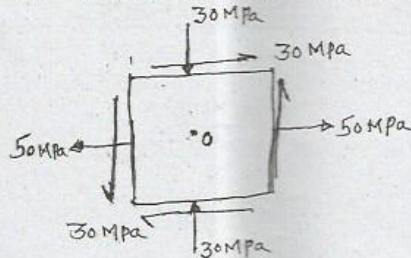

Fig. 15 (a)
15. (a) A machine element is subjected to the various stresses as shown in Fig. 15 (a). Using Mohr's circle method, find the principal stresses, maximum shear stress, and their appropriate inclinations. (8 + 5)